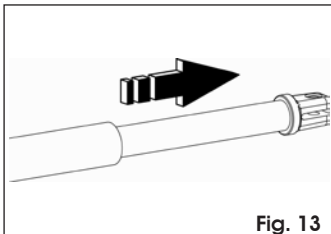

Fig. 13
4. Remove the pipe completely until it stops (Fig.13).